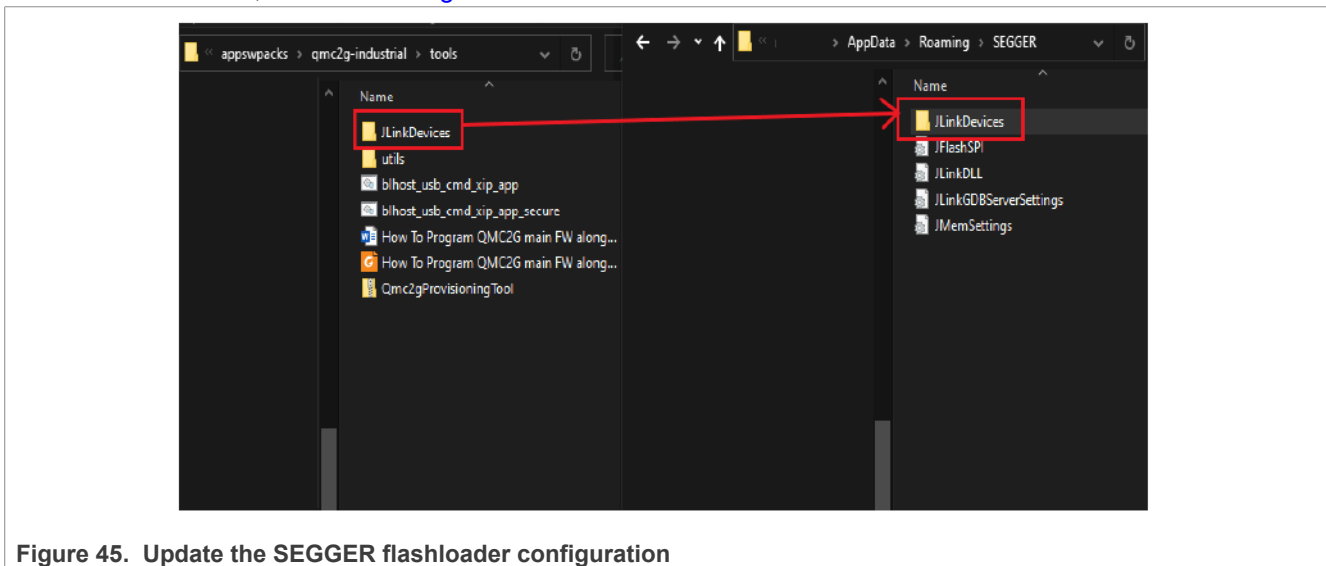

Figure 45. Update the SEGGER flashloader configuration
- During the installation process, a J-Link configurations folder is created in "%APPDATA%/SEGGER/". Copy the JLinkDevices folder from the "tools" folder of the application software pack into the "%APPDATA%/SEGGER/" folder, as shown in Figure 45.